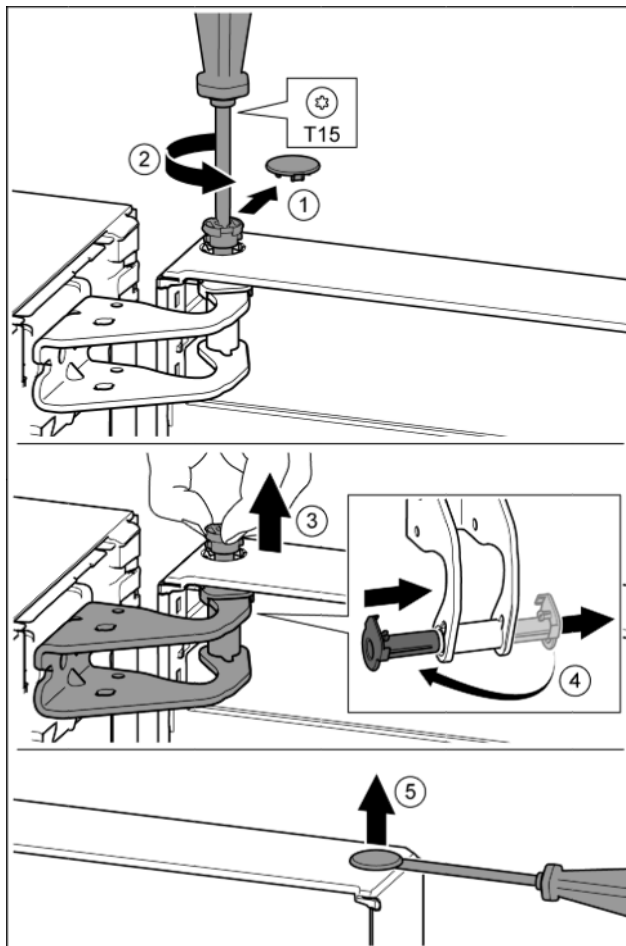

Fig. 7
- Carefully remove the safety cover. Fig. 7 (1)
- Undo the bolt a little with a T15 screwdriver. Fig. 7 (2)
- Hold the door and remove pins with your fingers. Fig. 7 (3)
- Pull the bearing bush out of the guide. Insert from the other side and click into place. Fig. 7 (4)
- Carefully lift the plugs out of the door bearing bush with a slotted screwdriver and remove. Fig. 7 (5)